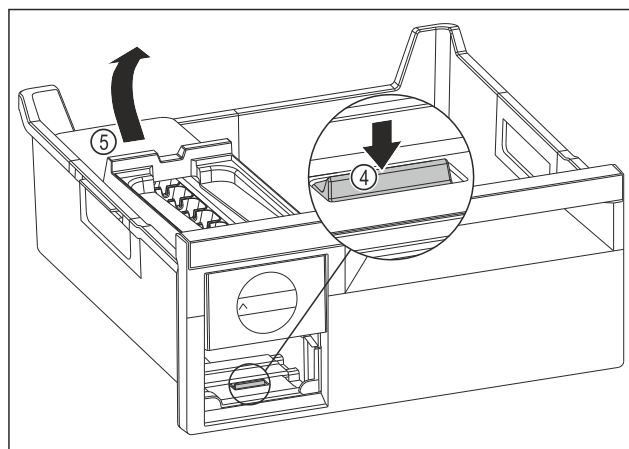

Fig. 78
- Removing the EasyTwist-Ice body: Use your finger to push the tab Fig. 78 (4) down and use your other hand to lift the EasyTwist-Ice body Fig. 78 (5) from behind at the same time.